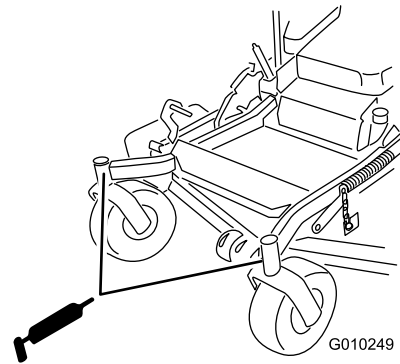

Figure 39
9. Remove the grease zerk in the hole. Install the hex plug and dust cap (Figure 39).